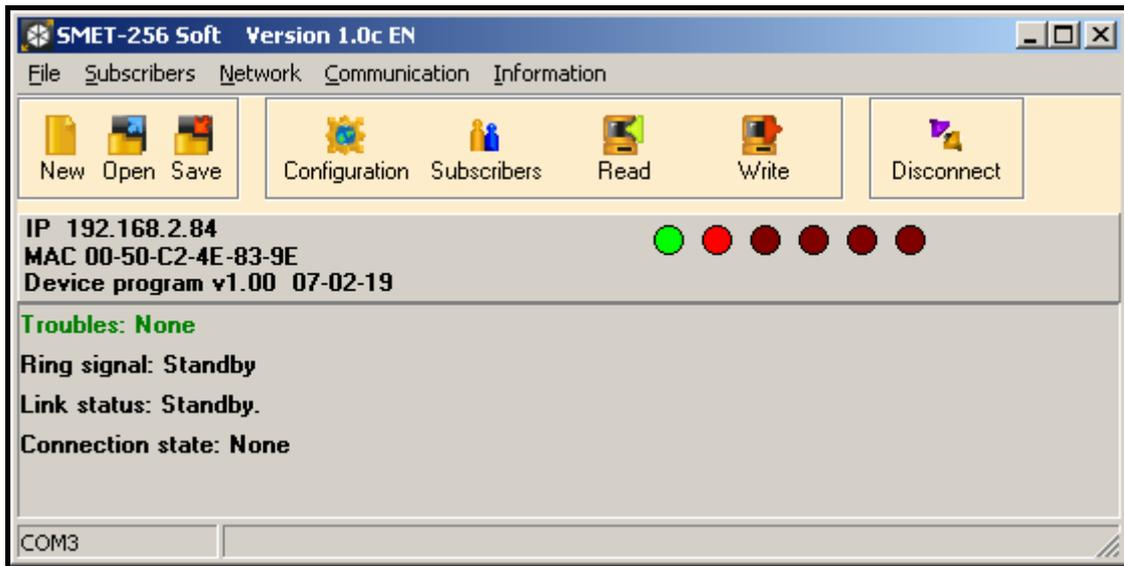

Figure 3. Main window of SMET-256 Soft program after connection is established with converter.
- 8 – **Connect** – establishing connection with the converter. Before connection is established, it is necessary to indicate the computer COM port through which communication is to be effected. After connection is established, the button name will change to „Disconnect”. Press the button to terminate communication with the converter (see Fig. 3).
- 9 – **IP** – IP address of the converter. Displayed after network parameters of the device are configured (see Fig. 3).
- 10 – **MAC** – MAC number of the converter. Displayed after connection with the converter is established (see Fig. 3).
- 11 – **Device program** – converter firmware version and compilation data. Information displayed after connection with the converter is established (see Fig. 3).